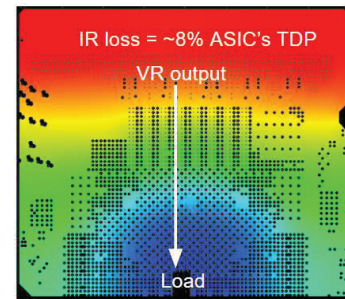
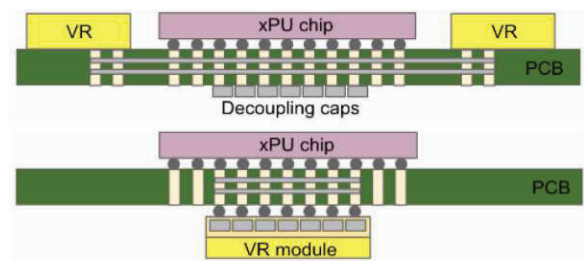
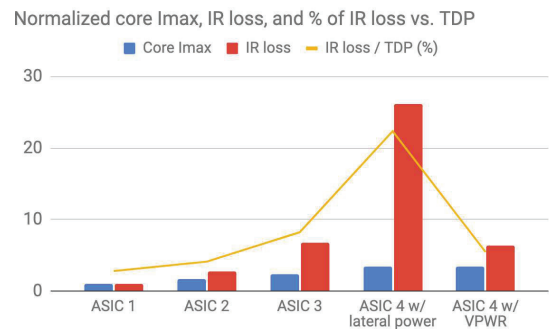

Fig. 1. Distribution loss in lateral power solutions.
Fig. 2. Lateral power vs. VPWR solutions.
Fig. 3. Distribution power loss vs. chip TDP.
With years of development, the facility level and rack level power solutions of modern data centers are highly efficient, with PUEs as low as 1.1 [1]. However on the tray level PCB board, from the point-of-load (PoL) voltage regulator (VR) to the ASIC load, power is converted to low voltages with very high current and travels for a final lateral distance of a few tens of millimeters with heavily penetrated metal planes, and that’s where the majority of power loss happens, as shown in Fig. 1. This IR loss is proportional to the square of current, hence grows much faster than ASIC’s own power demand which is only linearly proportional to current. For the latest ML ASICs [2, 3] with lateral power solutions, the distribution power loss alone is estimated to be 5-20% of the ASIC’s thermal design power (TDP). This percentage is expected to further increase as ASIC’s power scales up. Vertical Power Delivery (VPWR) has been an emerging solution for this lossy “last mile” of lateral distribution [4], as shown in Fig. 2. In the following sections, we present a VPWR solution to convert and deliver more than 1000 Amps of current from directly underneath the ASIC, with $1\text{A}/\text{mm}^2$ output current density for the vertical module and 70% power loss reduction. With the introduction of the solution, the distribution power loss was reduced from more than 20% of ASIC TDP to below 7%, as shown in Fig. 3.
The first stage IBC converters were placed laterally to the load ASIC, while the second stage VRM was mounted to the bottom of the PCB directly underneath the ML ASIC. A total of 24 phases of power stages were used in the final design, to support 1000 Amp of TDP and 1300 Amp of peak power. Inductors were embedded into the thick PCB underneath the phases. The PCB carrying all the power stages and the inductors was named “power board”. On the other hand, as indicated in Fig. 2, decoupling caps were originally distributed on the bottom side of the main board under the ASIC, to reduce the mid-frequency range power delivery network (PDN) impedance or to mitigate the so-called second droop. In the proposed design, these decoupling caps were absorbed into the second stage VPWR module as well, onto an additional PCB to the power board. This additional “cap board” was then bonded with the power board. The bottom side of the cap board was planted with solder ball arrays that match the ASIC package ball pattern, and the module was then ready to be surface mounted to the main board.